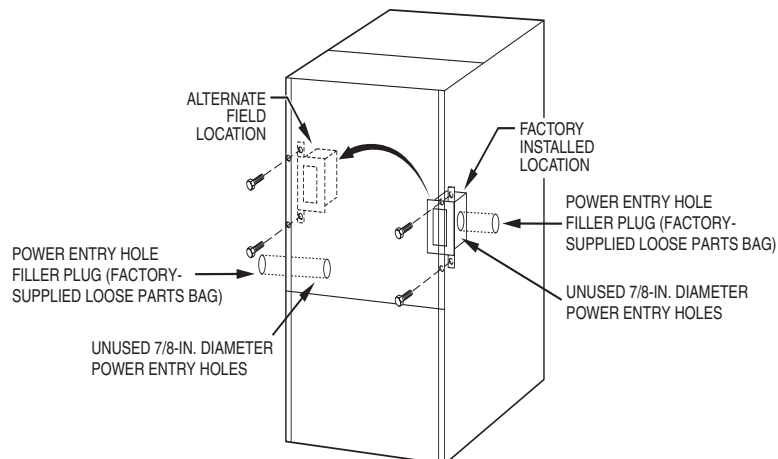

Fig. 22 – Relocating J-Box
1. Remove 2 screws holding auxiliary J-box. (See Fig. 22.)
3. Install power entry hole filler plugs (factory-supplied loose parts bag) in unused power entry holes. (See Fig. 22.)